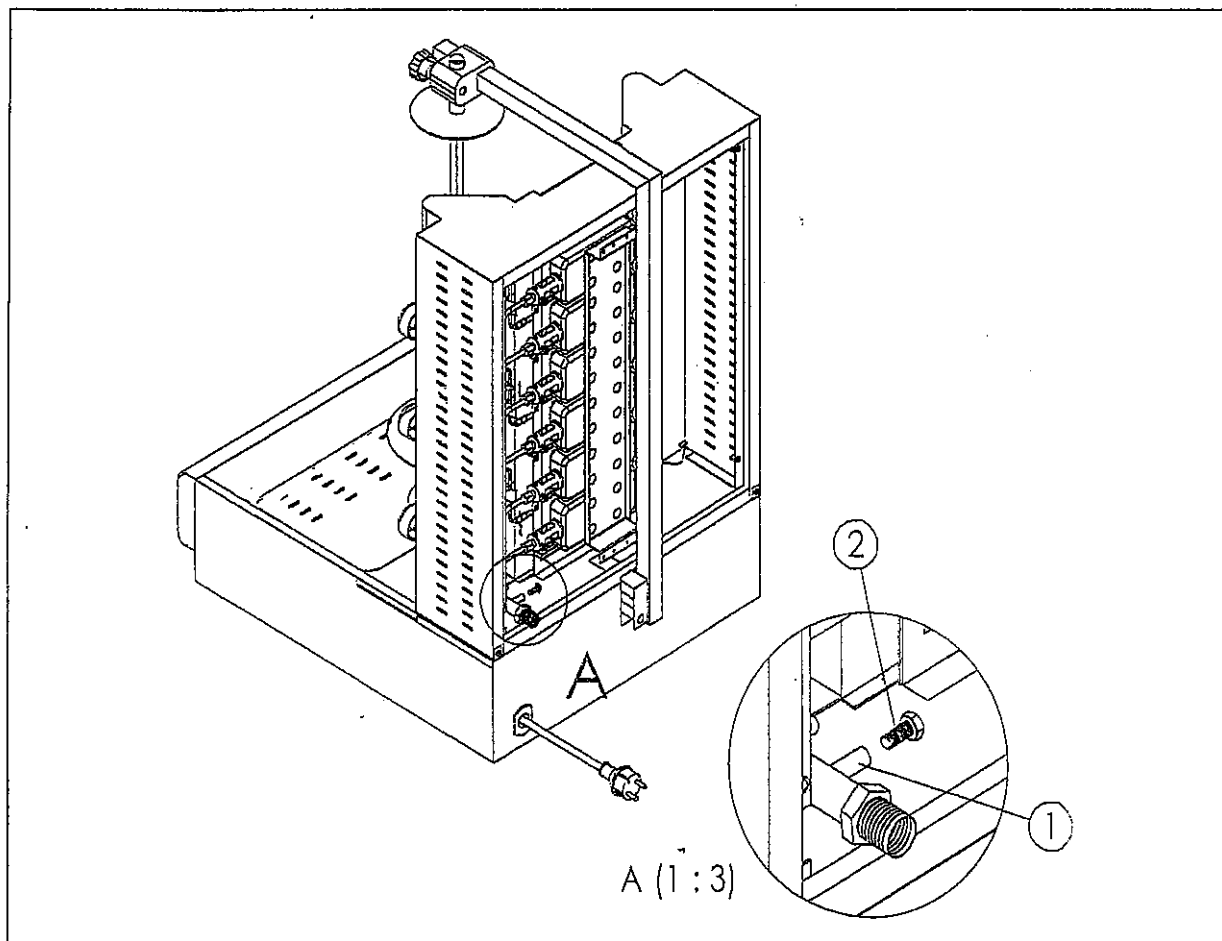

Figure 1.
2.3 STAGES OF PRESSURE CONTROL (Fig. 1)